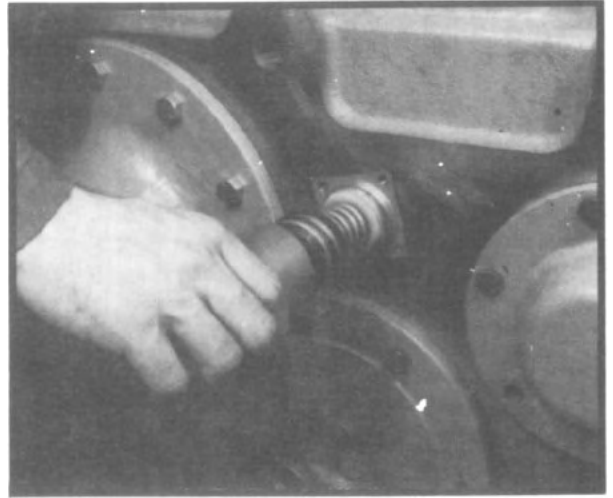

Fig. 199
10. Coat the shift cylinder tube lightly with gear lubricant, install cylinder tube over piston and seat against adapter tube. (See fig. 199.)